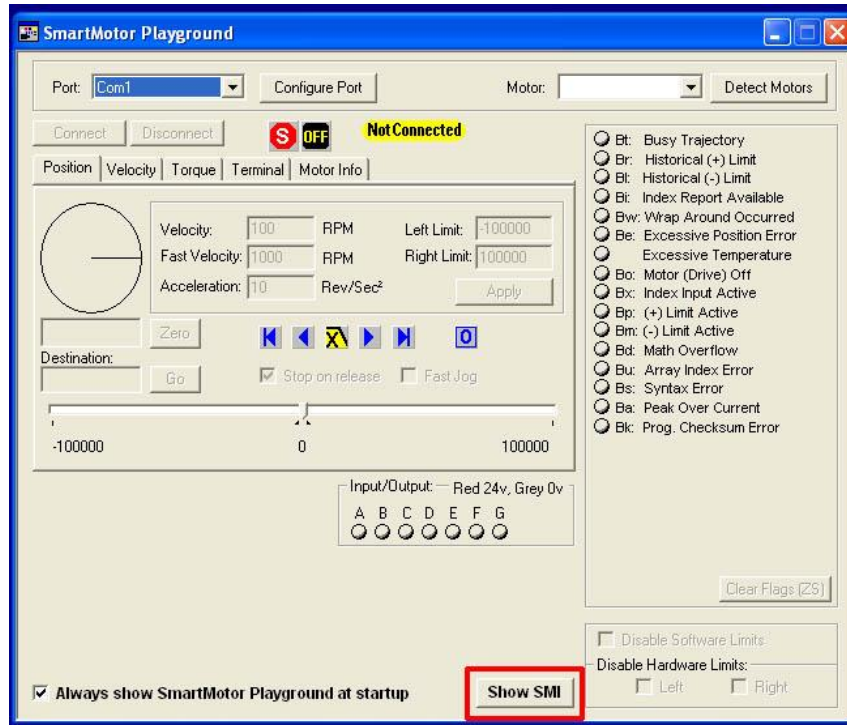
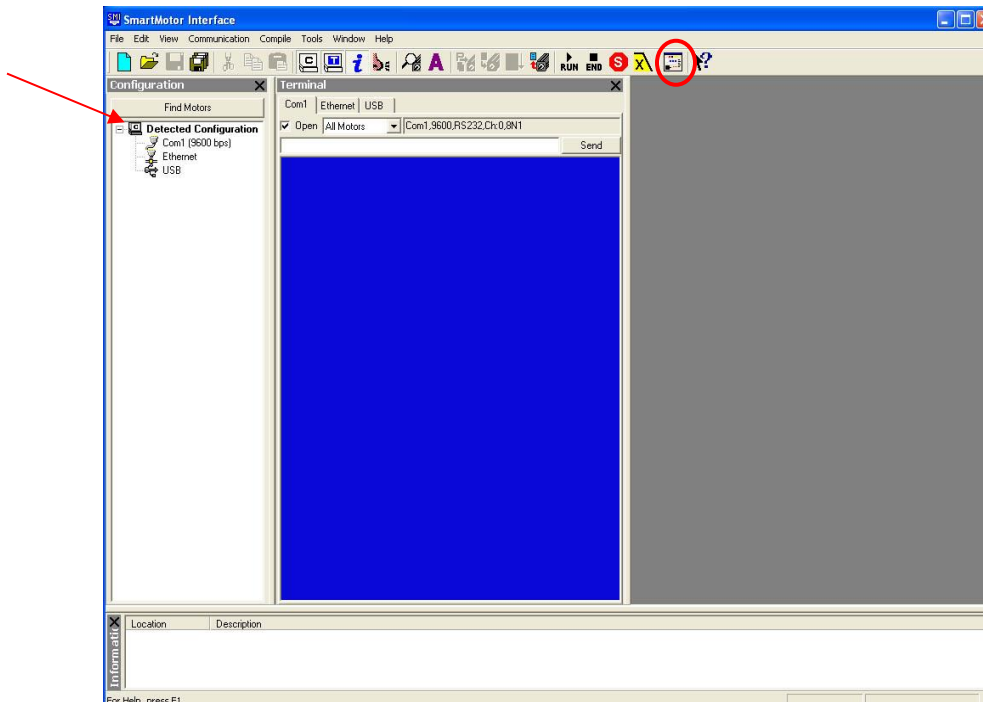

Figure 2. "Smart Motor Playground" window.
Figure 3. The Smart Motor Interface, "SMI".
4. If the program opens to the following screen, "Smart Motor Playground"(Figure 2) then click the "Show SMI" button at the bottom (red box) to get to the programming window, "Smart Motor Interface" (Figure 3). The Smart Motor Playground allows for manual, real time operation of the tumble stirrer through the software. To return to Smart Motor Playground, click the toolbar button shown with red circle in Figure 3.
5. Once SMI program is open, the next step is to detect the motor. To do this, go to the file menu "Communication" and select "Detect/Address Motors on RS-232 Chain". The detected motor will now be displayed on the left under Detected Configuration (red arrow, Figure 3).
9. To change the speed, change the velocity value (V): The velocity setting for the factory installed program is 200,000 (Line #25: V= 200000). To double the default velocity, change V= 200000 to V= 400000. This will increase speed ~2 fold.